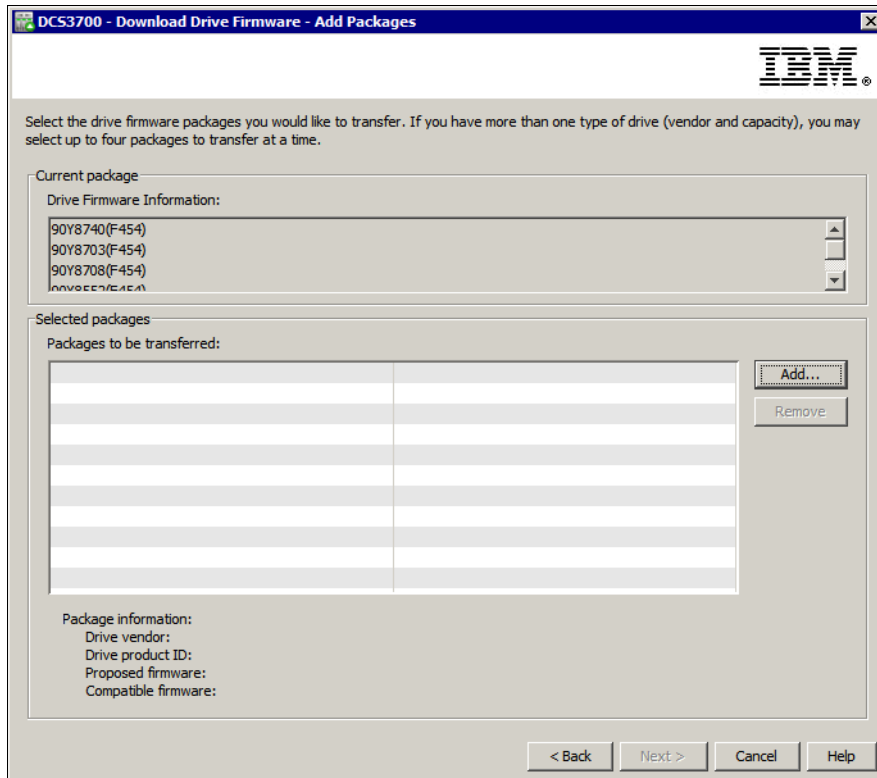

Figure 14-44 Select drive firmware package
2. The Download Drive Firmware - Add Packages window opens (Figure 14-44). This window has two main sections: